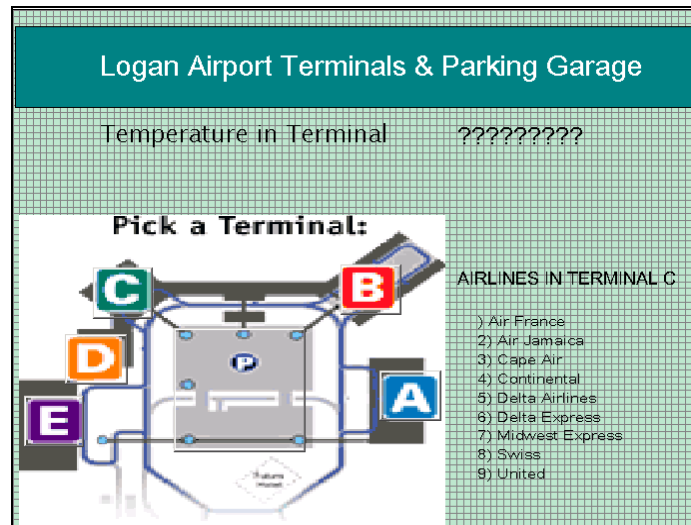

Figure 5.28
- 17 Group these text fields just like you did in step 10. **Layer 3** should look like **Figure 5.28** when complete.